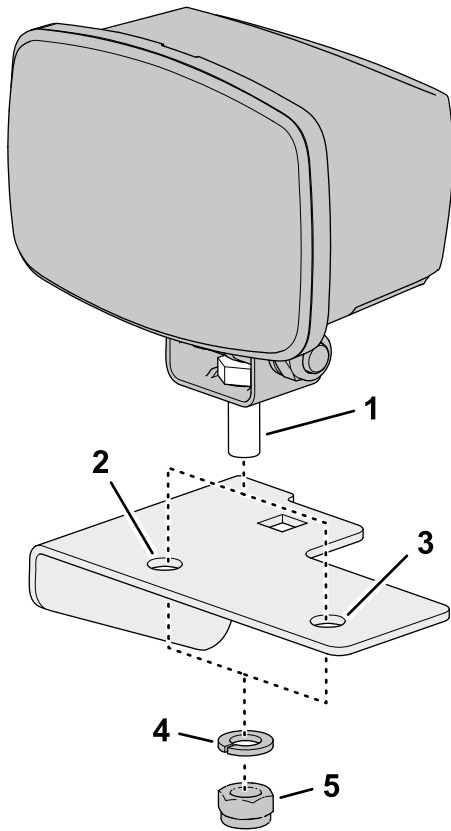

Figure 12
3. Assemble the capscrew (12 mm) to the light mount (Figure 12) with the locknut (12 mm) and lock washer (12 mm).